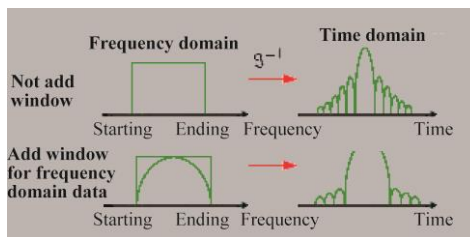

Fig. 2.7 Side Lobe Suppression by Window Filtering
- 2) **Side lobe of impact response:** caused by sudden changes of the stop frequency. The adjacent high-level response side lobe may result in hiding of low-level response signal, limiting the dynamic range of time domain measurement. The window filtering function can be used to inhibit the side lobe, as shown in Fig. 2.7.